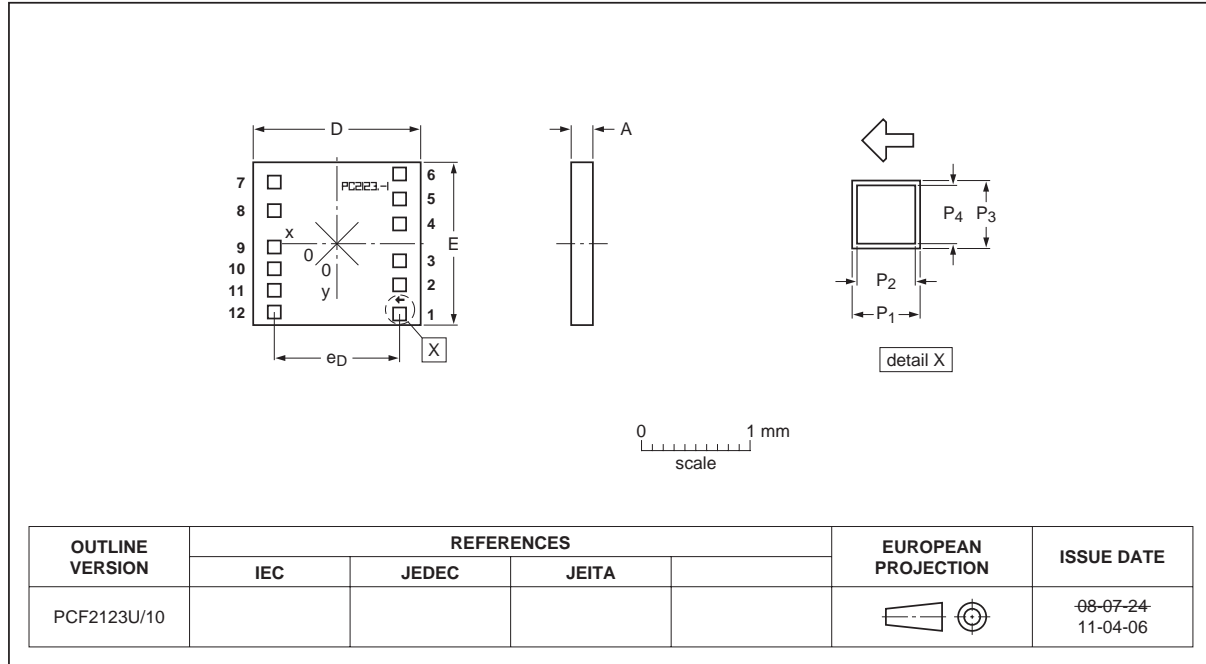
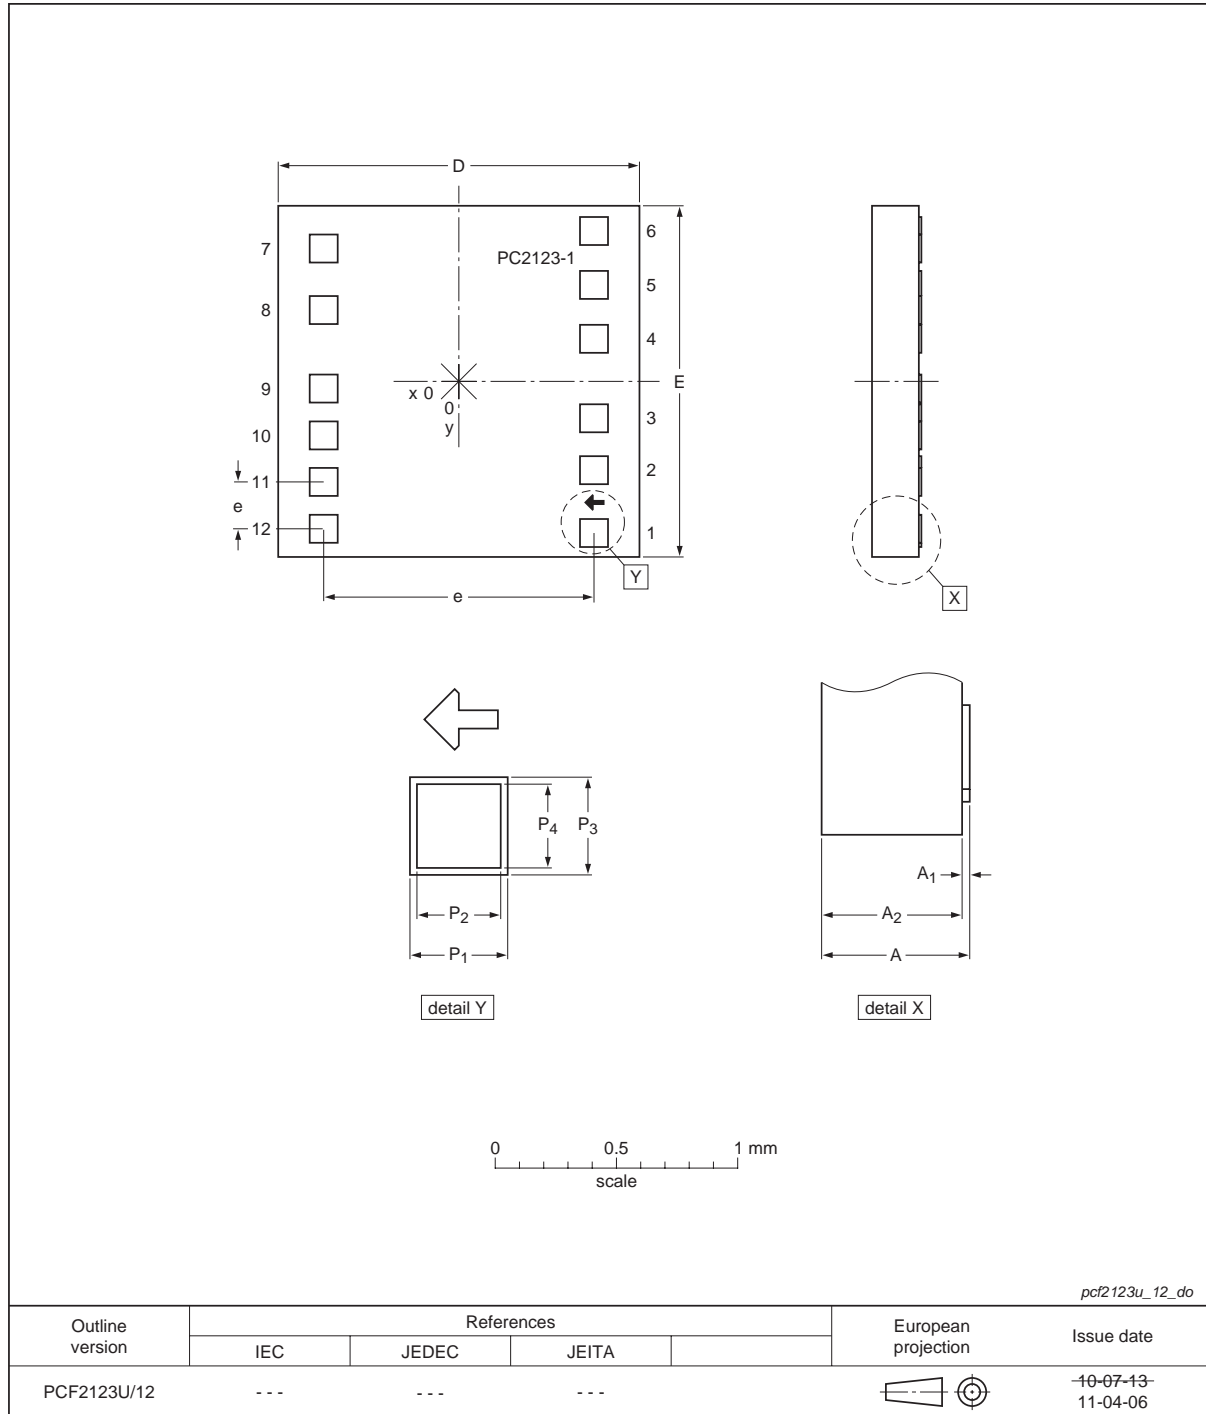
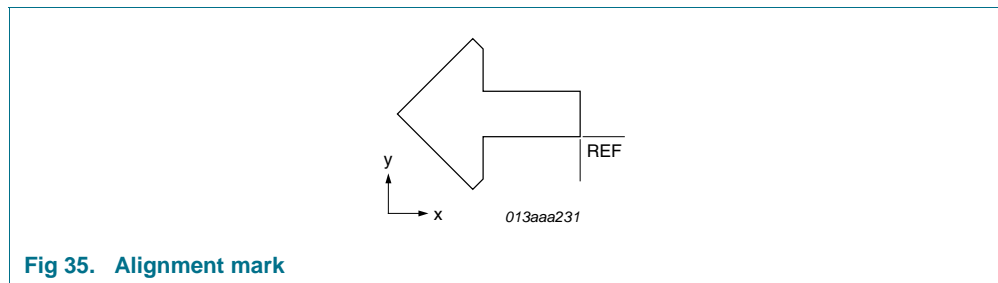

Fig 33. Bare die outline PCF2123U/10 of PCF2123U/5GA/1 and PCF2123U/10AA/1 (for dimensions see Table 46)
Fig 34. Bare die outline PCF2123U/12 of PCF2123U/12AA/1 and PCF2123U/12HA/1 (for dimensions see Table 47)
Fig 35. Alignment mark
[3] P₁ and P₃: pad size.[4] P₂ and P₄: bump size.**Table 48. Bump locations of all PCF2123U types**All x/y coordinates represent the position of the center of each pad with respect to the center (x/y = 0) of the chip; see Figure 33 and Figure 34.
- [1] The x/y coordinates of the alignment mark location represent the position of the REF point (see Figure 35) with respect to the center (x/y = 0) of the chip; see Figure 33 and Figure 34.
- [2] The x/y values of the dimensions represent the extensions of the alignment mark in direction of the coordinate axis (see Figure 35).